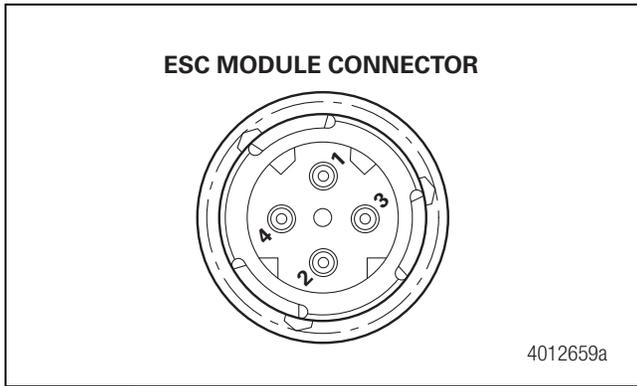
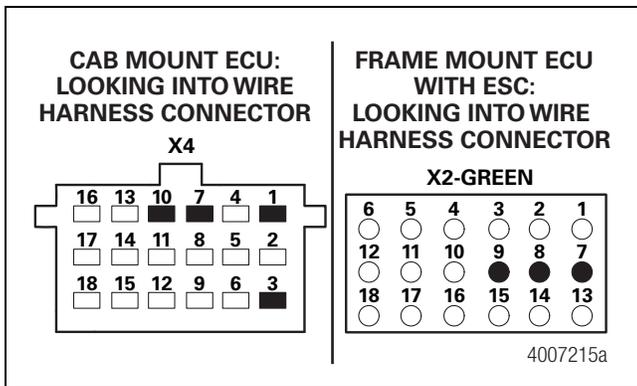

Figure 3.34
Figure 3.35
- Take measurements at the ESC module harness connector. Figure 3.34 and Figure 3.35.